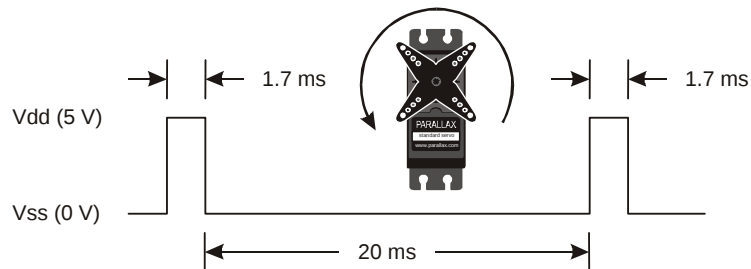

Figure 2-26
You probably guessed that making the **PULSOUT** command's *Duration* argument greater than 750 causes the servo to rotate counterclockwise. A *Duration* of 850 will send 1.7 ms pulses. This will make the servo turn full speed counterclockwise as shown in Figure 2-26.
- Figure 2-26 on page 60: 1.7 ms high makes the servo turn counterclockwise.